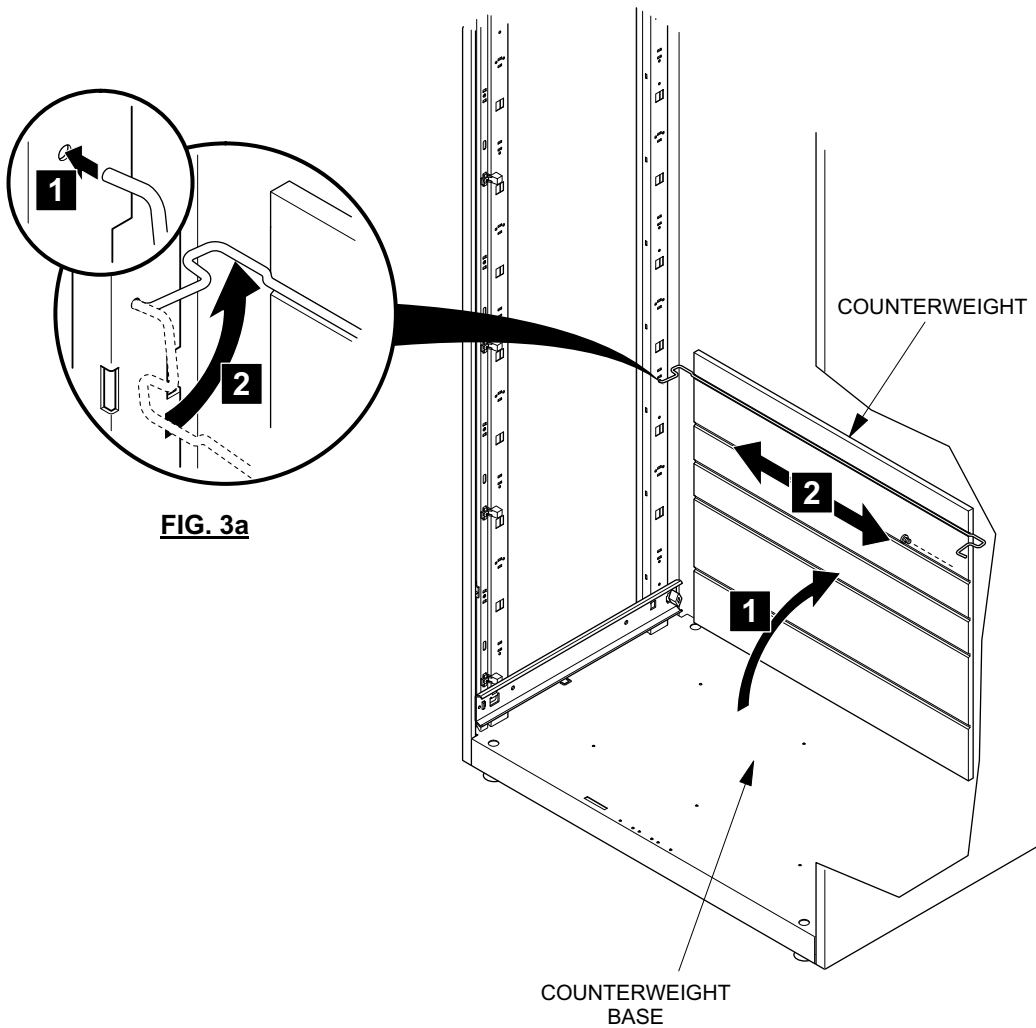

**FIG. 2**
3. Drill two (2) sets of 1/4" diameter holes through the side walls of the adjoining cases, located as shown below. Holes must be free of metal shavings.
4. Use the two (2) #10-32 x 3/4" PHH PNH screws, four (4) washers, and two (2) hex nuts supplied in file to bolt files together through the two sets of holes (Fig. 2).